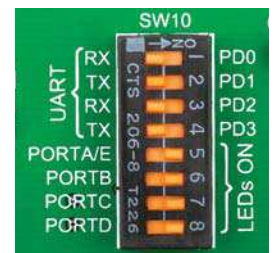

Figure 9-6: SW10.5 through SW10.8 switches are used to enable PORT LEDs
current value specified by the manufacturer. The current varies from 0.2mA to 20mA, depending on the type of the LED and the manufacturer. The EasyAVR™ v7 board uses low-current LEDs with typical current consumption of 0.2mA or 0.3mA, depending of VCC voltage selection. Board contains 35 LEDs which can be used for visual indication of the logic state on PORT pins. An active LED indicates that a logic high (1) is present on the pin. In order to enable PORT LEDs, it is necessary to enable the corresponding DIP switches on **SW10** (**Figure 9-6**).